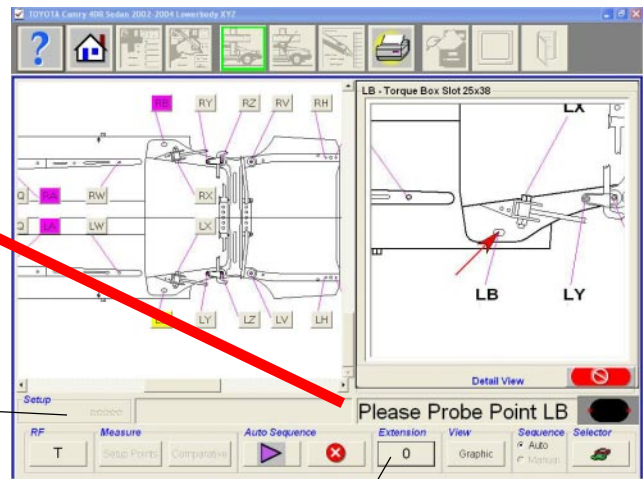
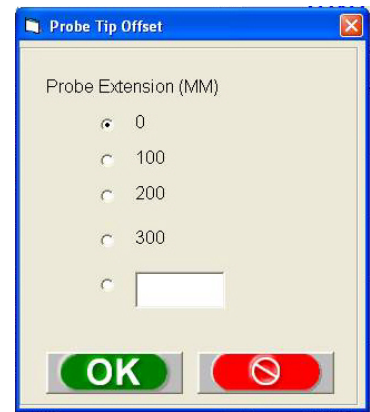

Figure 18
Figure 21
- If the point is a slot or a hole, either measure 2 (two) or 3 (three) sides. The program will prompt you on where to measure as shown below. See Figure 18
To add extensions, select the "Extension" button, see Figure 18 for button location. The box as shown in Figure 21 will allow selection of the proper length. If the extension is used and not selected the measurements will be wrong and will require re-measurement of that point.